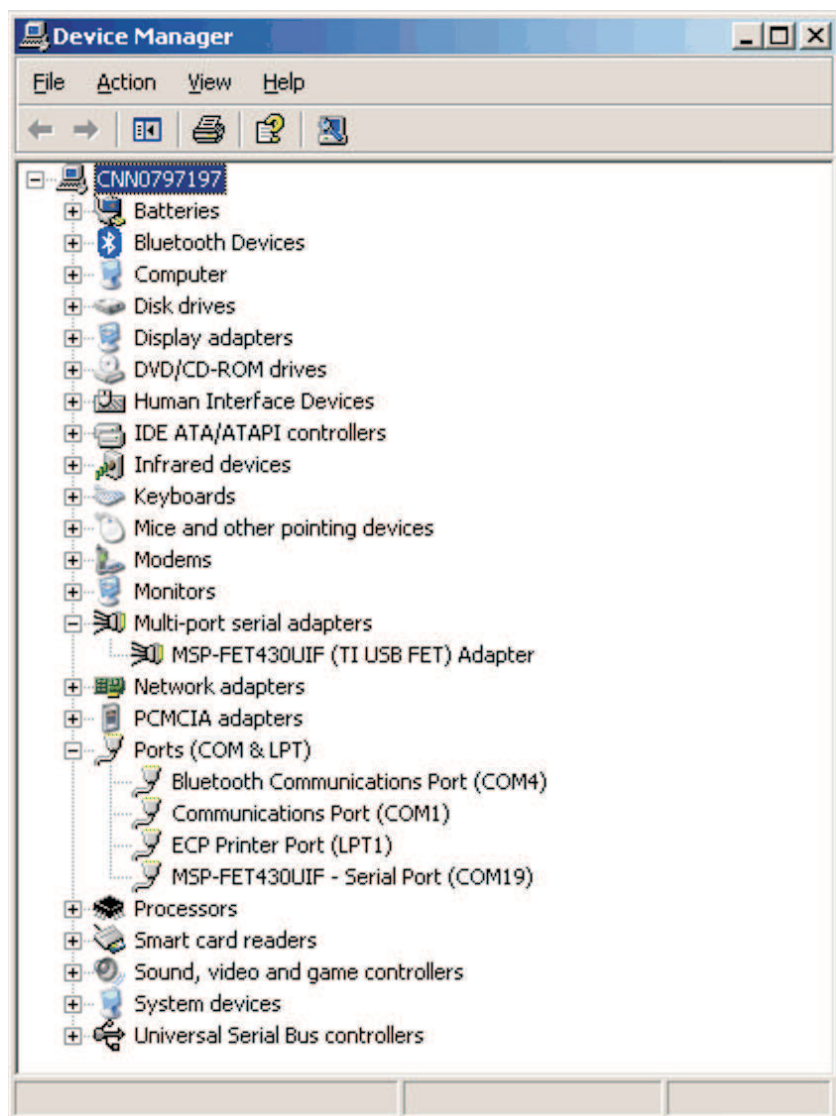
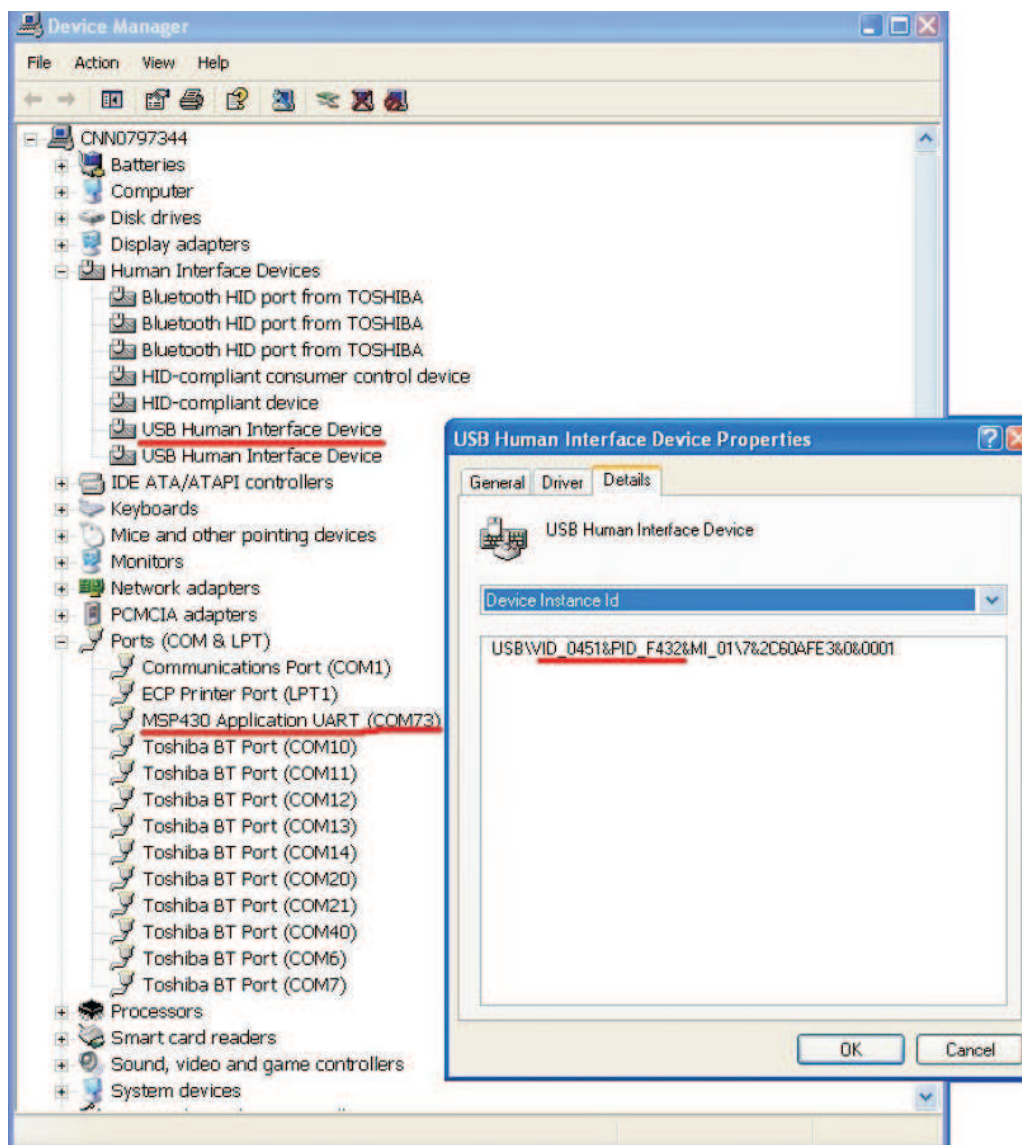

Figure F-5. Device Manager Using MSP-FET430UIF or eZ430-F2013
Figure F-6. Device Manager Using eZ430-RF2500
13. The USB debug interface is installed and ready to use. The Device Manager lists a new entry as shown in Figure F-5 or Figure F-6.